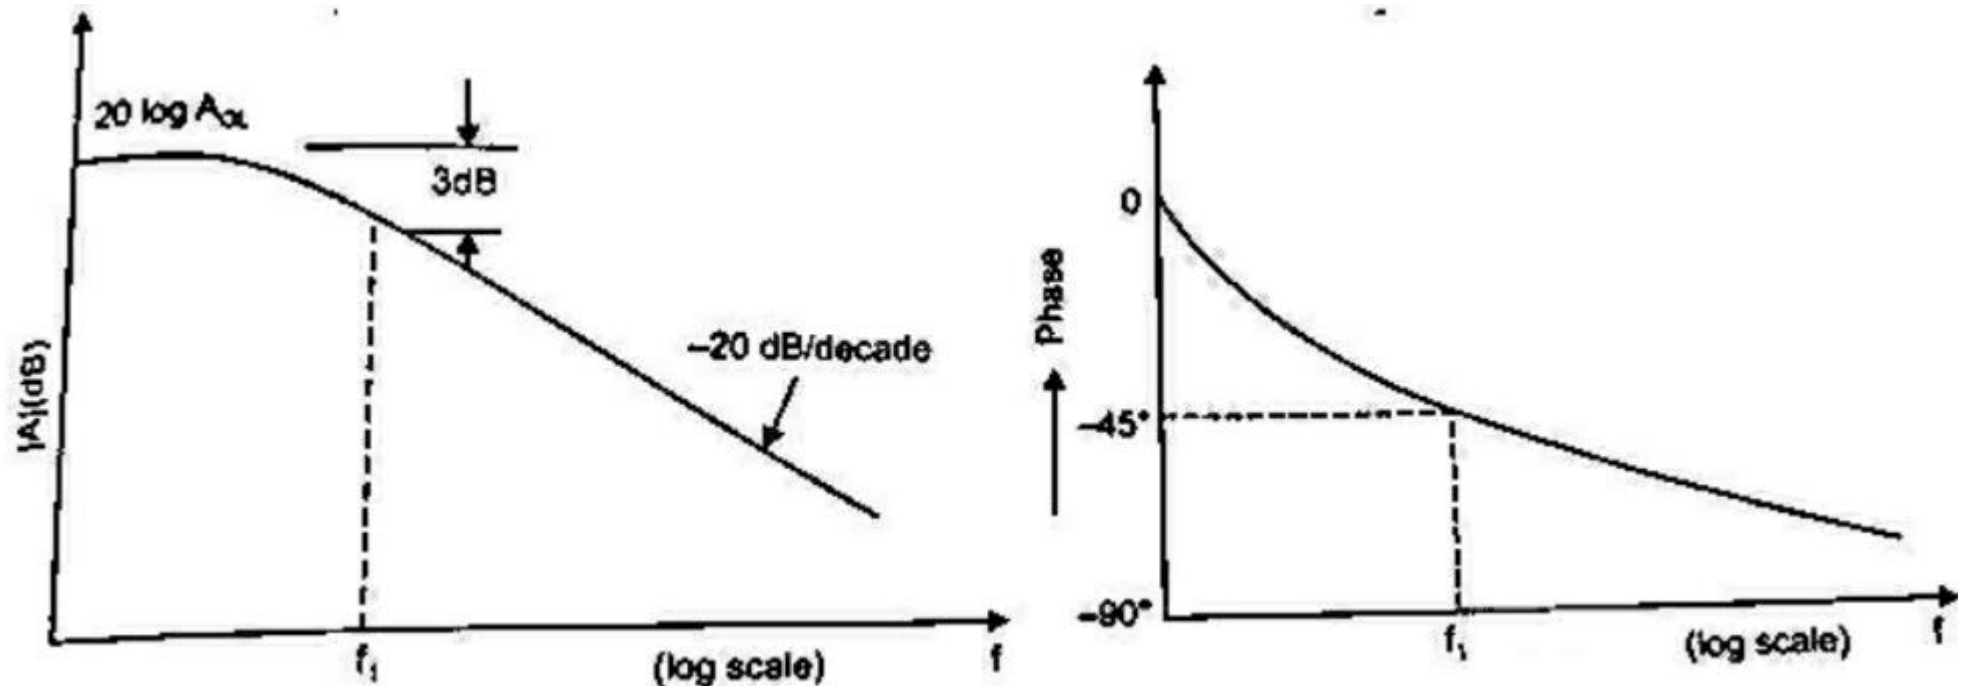

Fig 2: Open loop magnitude and phase characteristics for an op-amp with single break frequency
- The magnitude and phase responses are shown in figure 2.